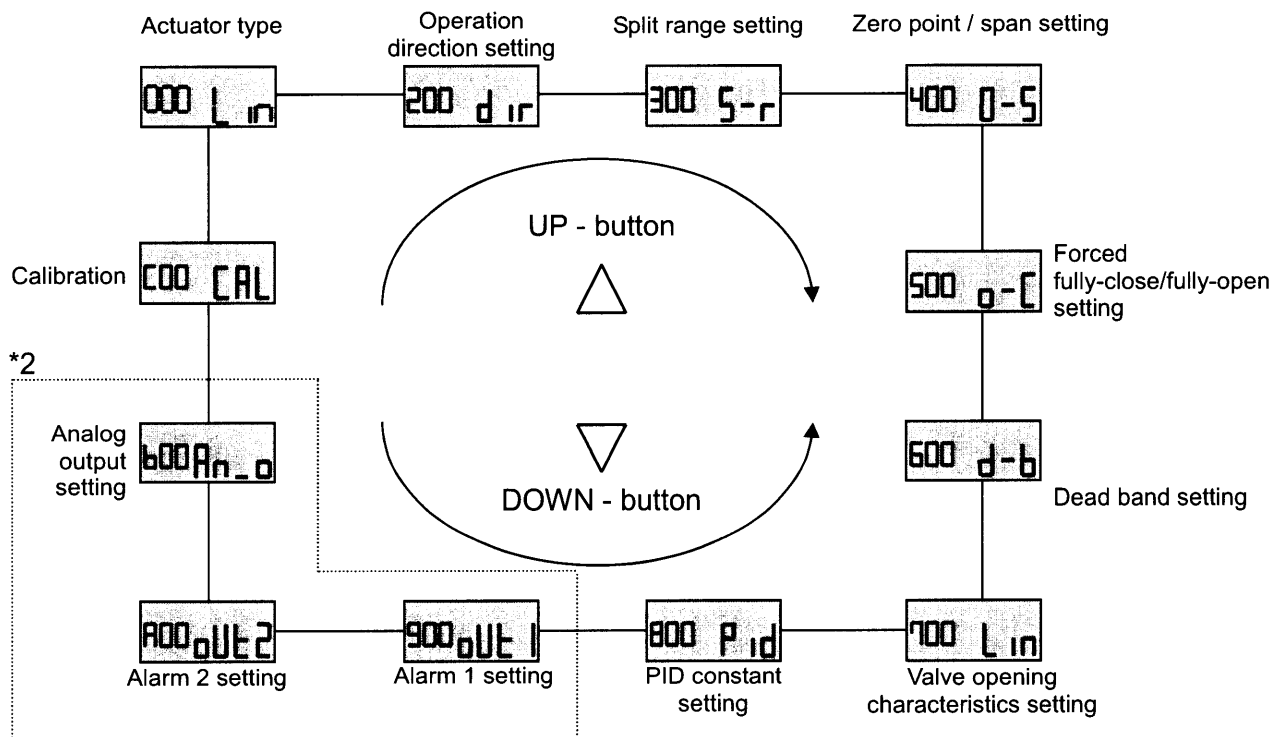

Fig.22
- (1) When an input current is entered for the first time, only the parameter mode can be selected. According to "■Initial Adjustment", calibrate the positioner.
- (2) After (1), the auto mode is displayed first when an input current is entered.
- (3) The parameter code is shown in Fig. 22. The standard type and HART communication type has 8 setting items. The output function type and ATEX type has 11 setting items. Select the parameters in order with the UP / DOWN button ( $\nabla$  or  $\Delta$ ).
- (4) Parameters stop with parameter codes flashing, and the codes can be changed by pressing the set button ( $\text{C} + \Delta$ ) for 1sec. or more. Push the UP / DOWN button ( $\nabla$  or  $\Delta$ ) to modify a value. After the value is decided, push the mode button ( $\text{C}$ ) to go back to the parameter code flashing status\*1.
- (5) To enter the lower hierarchy, hold down the set button ( $\text{C} + \Delta$ ) for 1sec. or longer. To go back, hold down the mode button ( $\text{C}$ ) for 1sec. or longer, to display a sub menu.
- (6) See the next page, "■Parameter Code Detail" for detail of parameter codes.
\*2: The parameter surrounded by a broken line in Fig. 22 will not be shown for the standard type (IP8001-0\*0) or the product with HART communication (IP8001-0\*3).